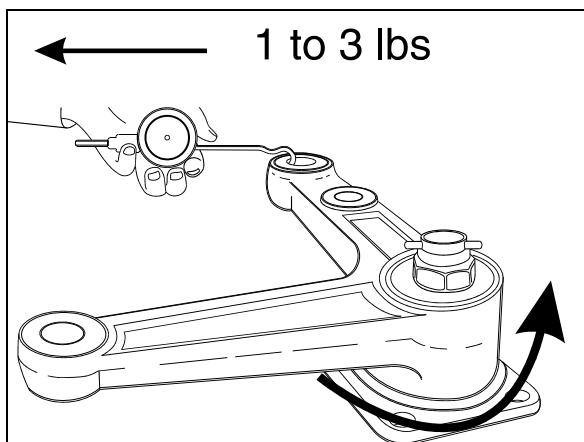

FIGURE 15: BELL CRANK
4. Unscrew nut until bell crank or idler arm starts to turn by the application of 1 to 3 pounds load (Fig. 15).